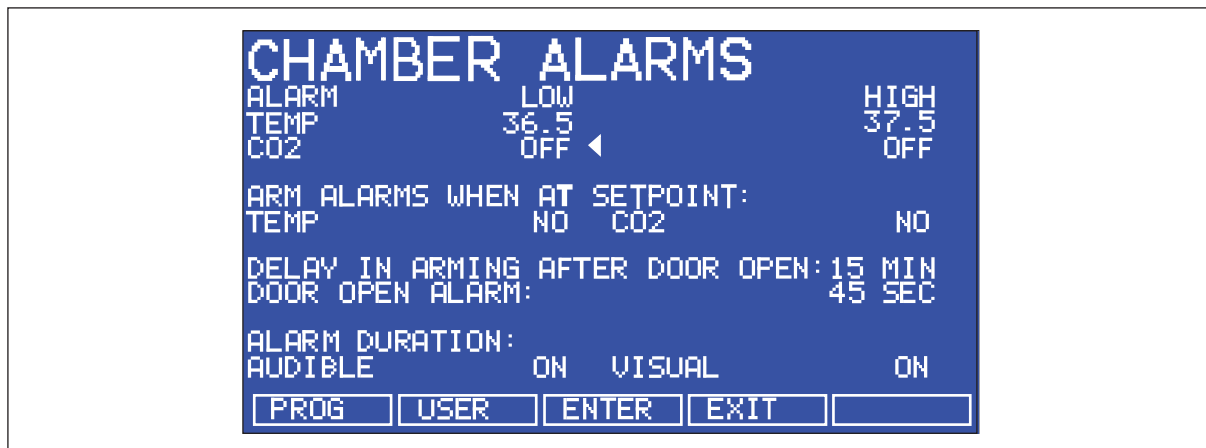

Fig. 5-7: *CHAMBER ALARMS* screen
To enter the *CHAMBER ALARMS* menu screen, press the *ALARM* function key on the main display. The *CHAMBER ALARMS* programming screen (see Fig. 5-7 on p. 38) allows the various alarm options to be selected and modified. Press the ▲ or ▼ direction key to move around the options and the ◀ or ▶ direction key to adjust values. The temperature and CO2 high and low alarm setpoints automatically adjust to within ± 0.5 of the temperature and CO2 setpoints. The alarm setpoints can also be manually adjusted.
2. Select *NO* for both *TEMP* and *CO2* (see Fig. 5-7 on p. 38).
3. Choose the option *DELAY IN ARMING AFTER DOOR OPEN* and select the desired delay (15 minutes in the sample screen (Fig. 5-7 on p. 38)) to allow for temperature and CO2 recovery after the outer door has been opened.
The *DOOR OPEN ALARM* can be adjusted and chosen from 7 preset durations (45 seconds in this example), (Fig. 5-7 on p. 38) to warn of an improperly closed outer door.
In the off position, any chamber alarms that occur will be displayed on the screen without flashing and with the audible alarm inhibited (see Fig. 5-7 on p. 38).